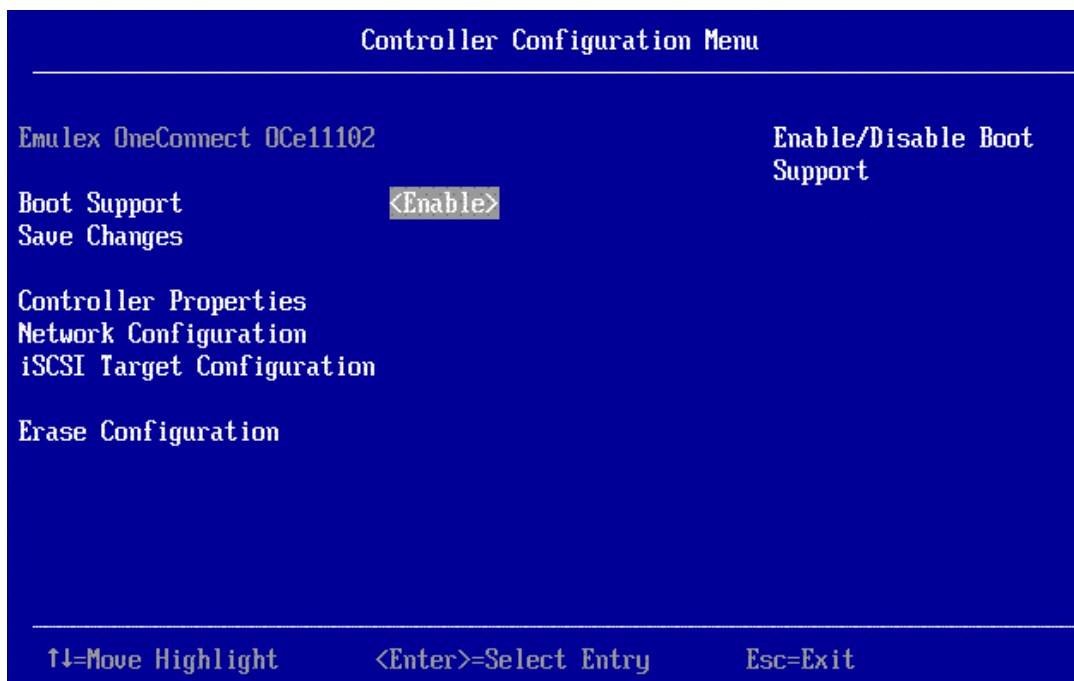
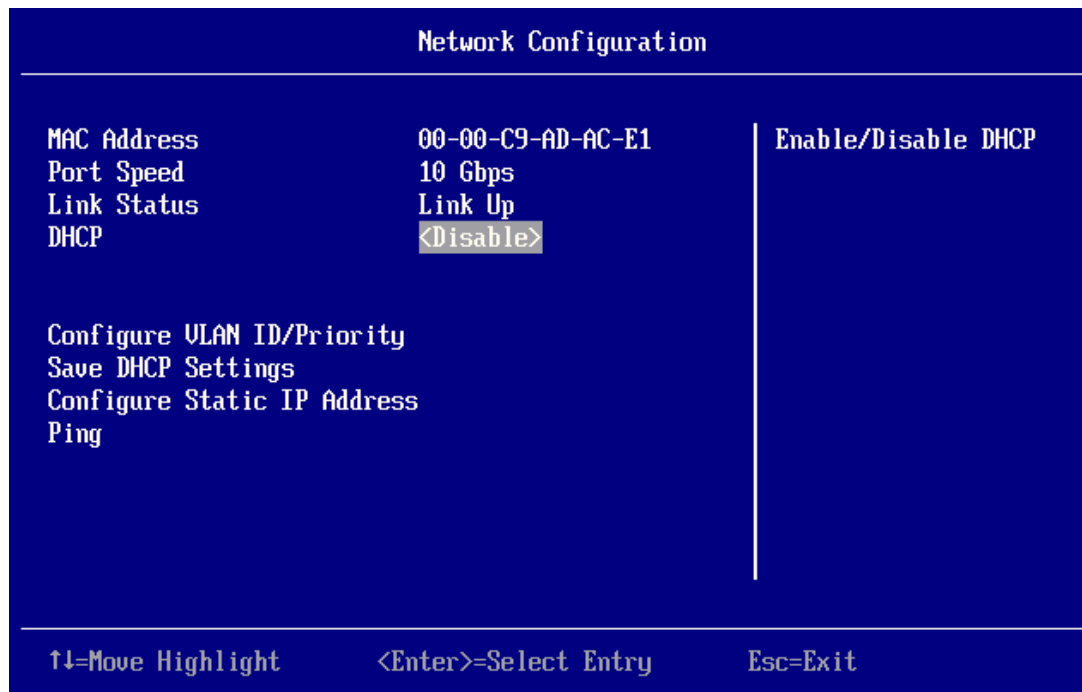

Figure 11-6 Controller Configuration Menu Screen
Figure 11-8 Network Configuration Screen
1. On the Controller Configuration menu (Figure 11-6), select **Network Configuration** and press **<Enter>**. The Network Configuration screen is displayed.
1. On the Controller Configuration menu (Figure 11-6), select **Network Configuration** and press **<Enter>**. The Network Configuration screen is displayed (see Figure 11-8).
4. On the Controller Configuration menu (Figure 11-6), select **iSCSI Target Configuration** and press **<Enter>**. The iSCSI Target Configuration screen shows the discovered targets.